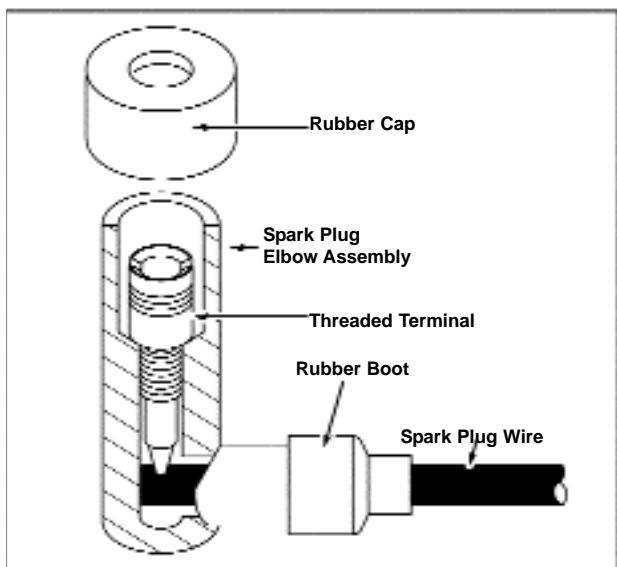

Figure 71 - Installing Spark Plug Elbow
- Insert spark plug wire through rubber boot into elbow until wire stops, Figure 71.
- Install threaded terminal with a screwdriver or until terminal pierces wire and bottoms, Figure 71.
- Install rubber cap on elbow, and slide rubber boot onto elbow, Figure 71.